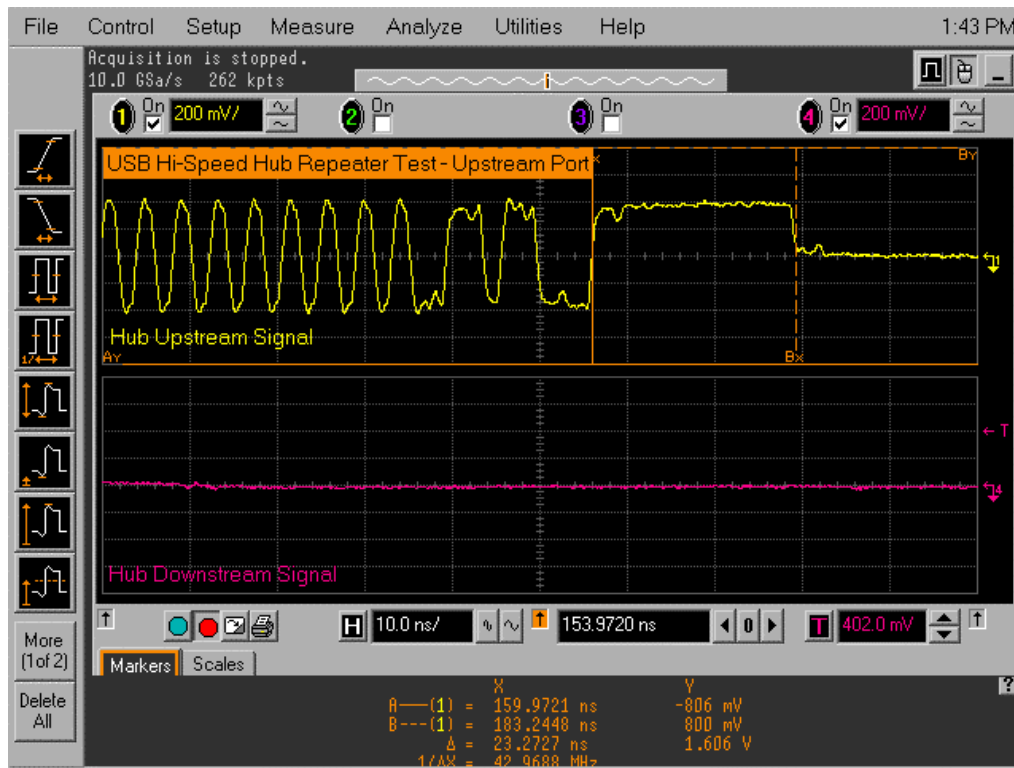

Figure 38. EOP Width – No More Than 4 Added Bits (change picture)
- a. Measure the time of the EOP width of the packet in Channel 4. Refer to Figure 38 for reference.